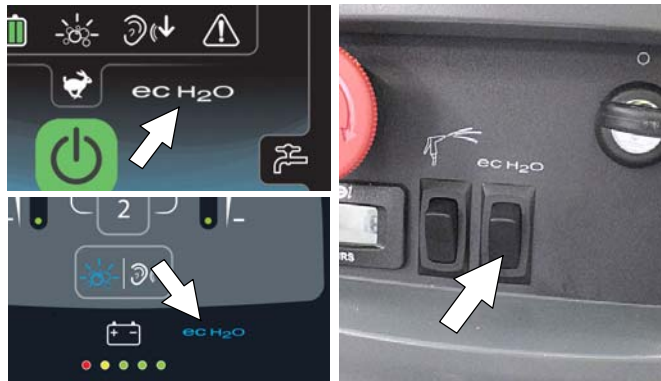

FIG. 75
3. ec-H₂O models - The ec-H₂O system will automatically turn on at key start up. The ec-H₂O indicator will appear on the control panel indicating that the system is activated (Figure 75).
ATTENTION: When conventional scrubbing with cleaning detergents in solution tank, make sure to turn off the ec-H2O system by pressing the ec-H2O switch (Figure 75). If cleaning detergent is accidentally cycled through ec-H2O system, a system fault will occur. To clear fault, drain solution tank, add clear water and operate the ec-H2O system to clear fault. If fault repeats, continue to recycle key until fault clears. See SERVICE INDICATOR CODES for further detail.